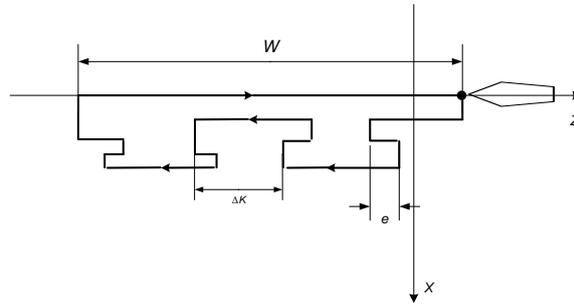

Figure II-39 Cycling process of G74
- 5 The tool path is as shown in Figure II-39 as G74 is performed.